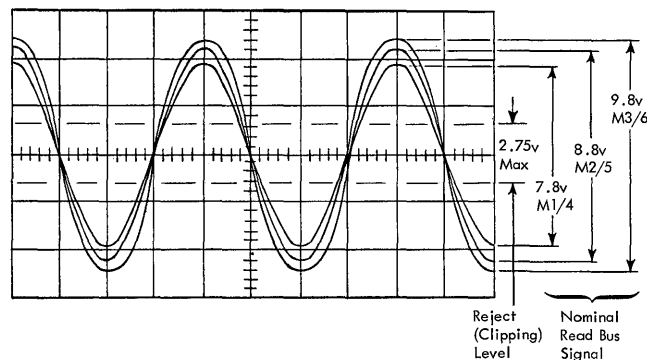

Figure 24. Read Backward Checking of Nine-Track NRZI Write Operation
**Write Clipping Level:** See Figure 24.